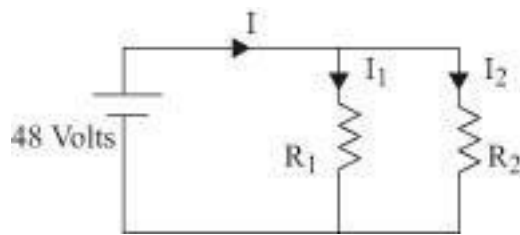

Figure 1.12
**Solution:** The above given Circuit can be redrawn as as shown in figure 1.12.